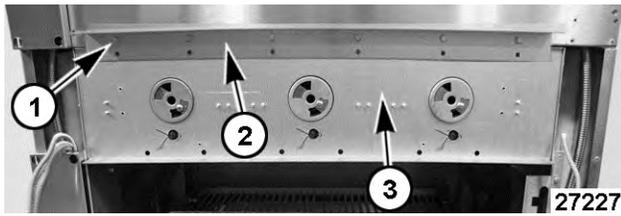

Fig. 15
7. Loosen screws [1] Fig. 15 (qty 6) by several turns that secure the burner support [2] and brace [3] Fig. 15 to broiler frame.